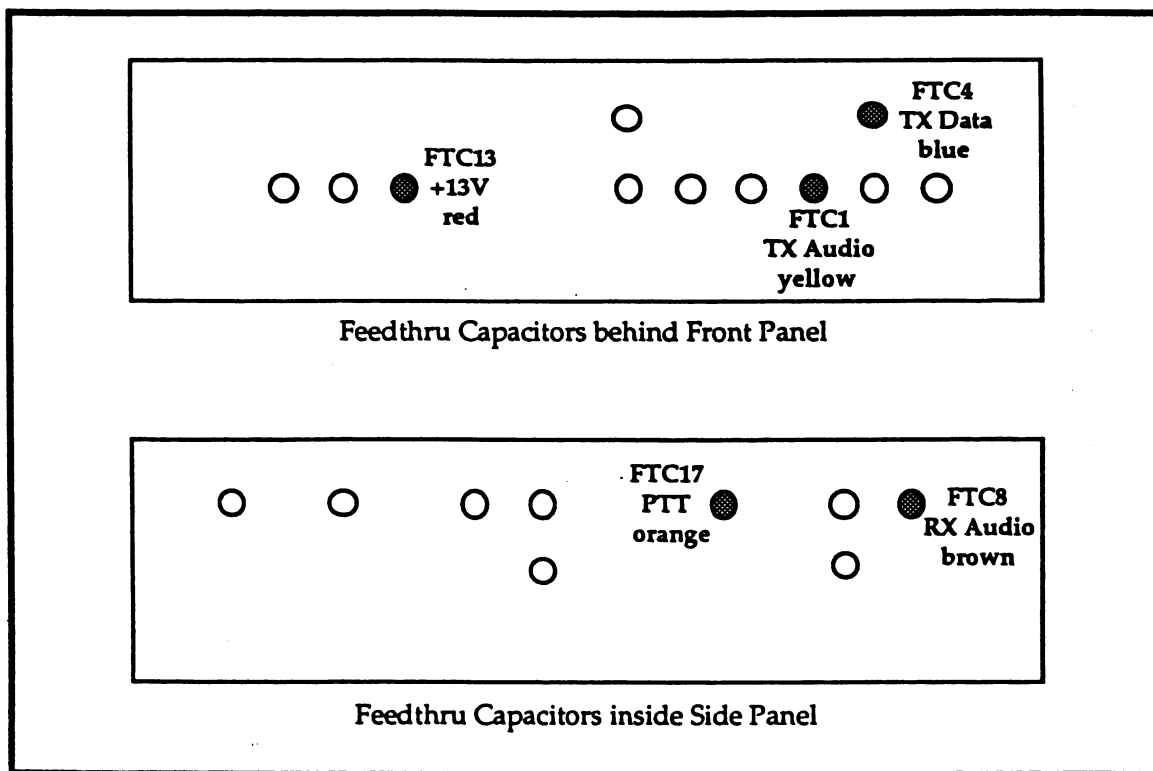

Figure 4-10. ReIm Repeater Tie Points
- []6. Solder the bare wire ends to the feed-thru capacitors in the walls of the RF cabinet as shown in Figure 4-10.